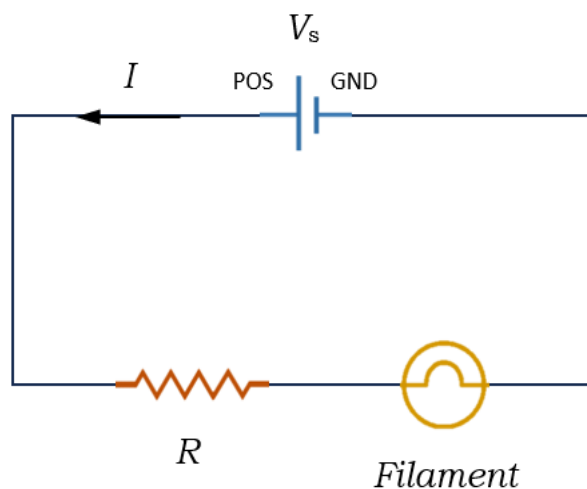
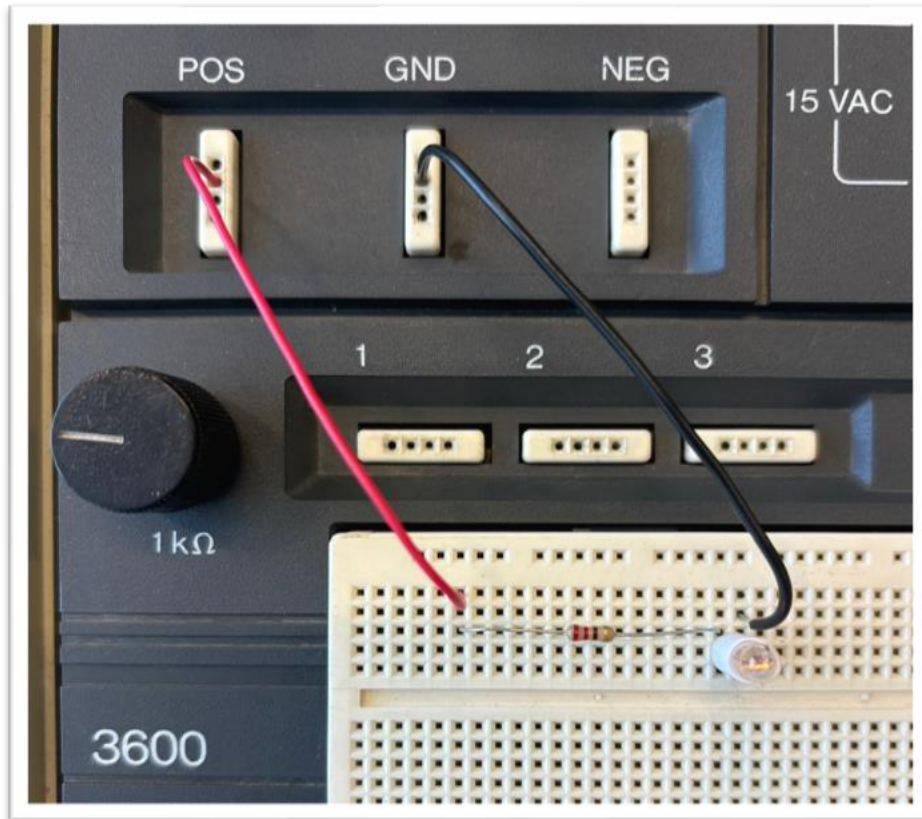

Fig. 2
Fig. 3
- 1- Implement the circuit in **Fig. 2** on the breadboard as shown in **Figs. 3&4**.